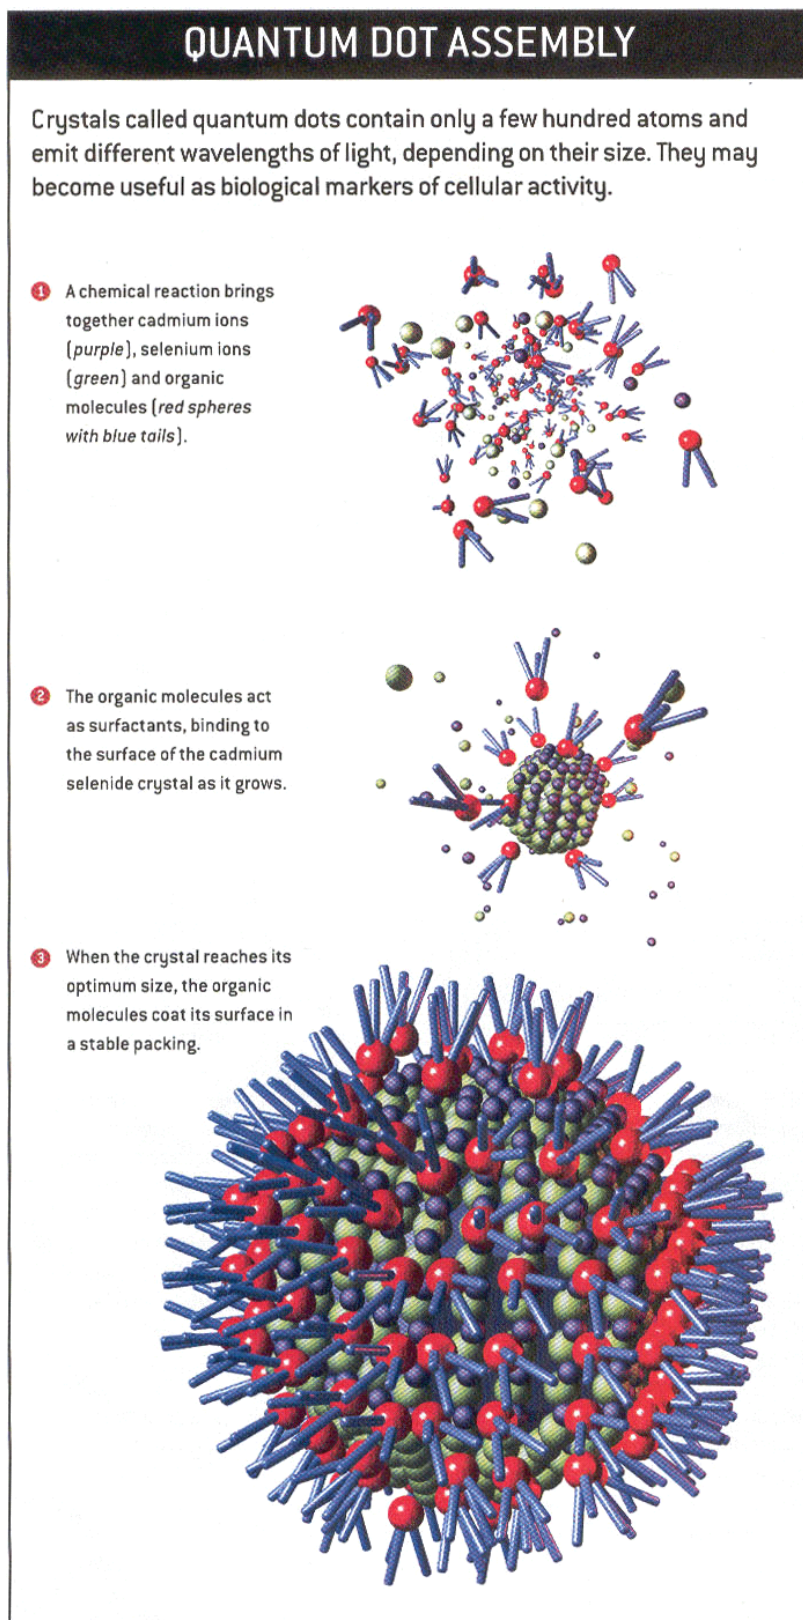

**FIGURE 2.** Synthesis, cloning, and expression of artificial genes encoding rRepetitive polypeptides.
Fig. 2 (A) Scanning electron micrograph (SEM) of an array of  $2.5 \mu\text{m}$  wide lines of Au generated using the standard procedure of mCP, followed by chemical etching in a basic cyanide solution. (B) SEM of a gold pattern that was produced using mCP under water with the same PDMS stamp as in (A). The inked stamp was allowed to remain in contact with the gold surface for ca.  $5 \text{ min}$ .
**Fig. 2 p. 376**